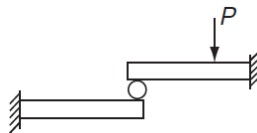

Figure 14 Question 28.
28. Two identical cantilever beams are supported as shown in Figure 14, with their free ends in contact through a rigid roller. After the load P is applied, the free ends will have